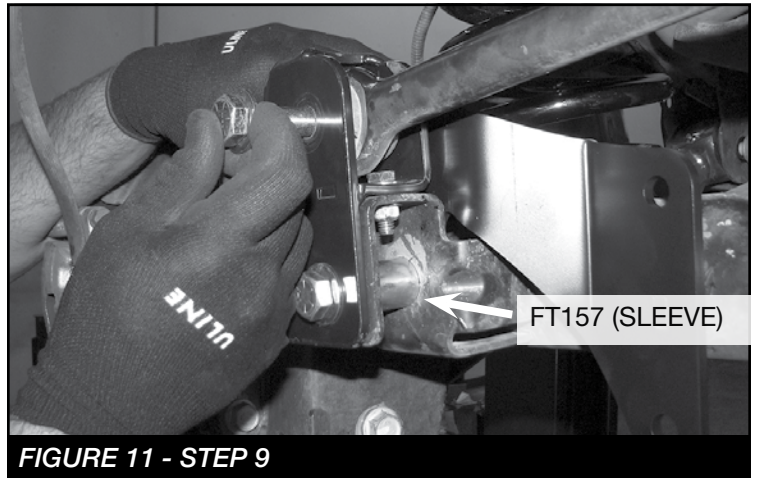

FIGURE 11 - STEP 9
9. Install FT50438BK (Rear Track Bar Support) using the supplied (2) 9/16-12 X 3-1/4" bolts and hardware. Leave loose. **NOTE: Install the lower bolt first using the FT157 sleeve. SEE FIGURE 11**